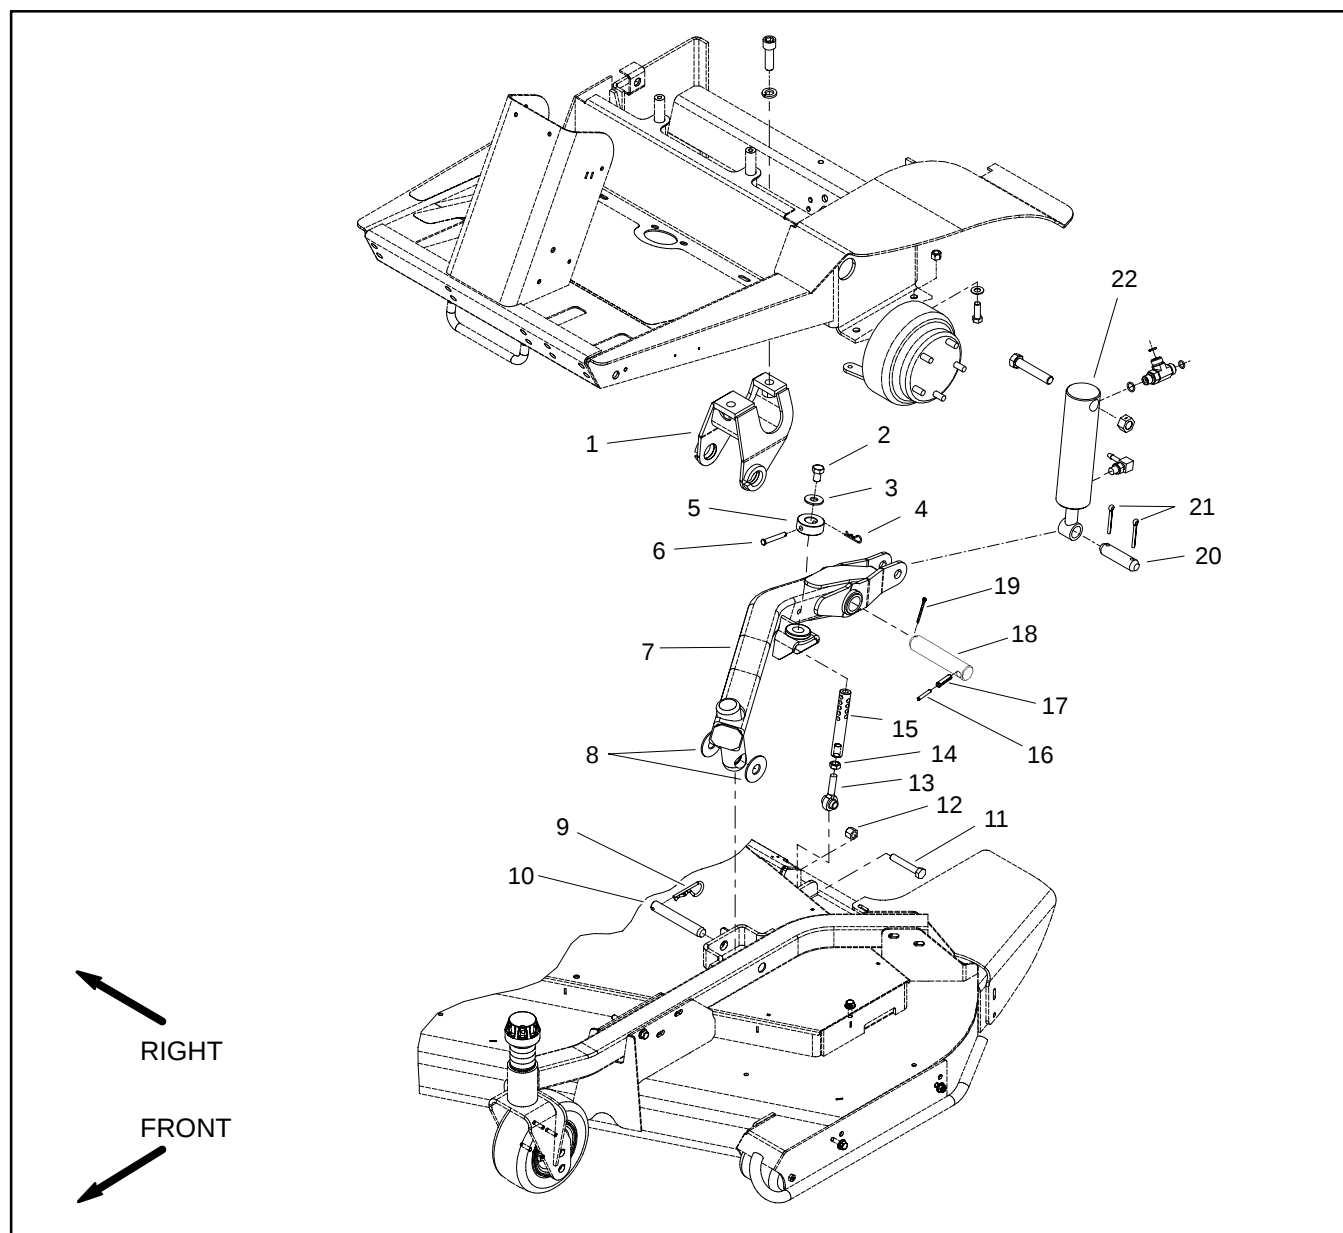

Figure 13
Removal (Fig. 13)
4. Remove front lift arm components from machine using Figure 13 as a guide.
Installation (Fig. 13)
2. Install front lift arm components to machine using Figure 13 as a guide.